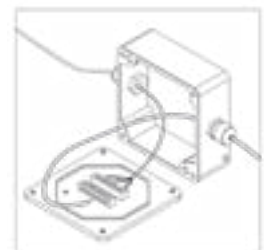

Fig 2
- Thread multi-core wire through the enclosure grommet as shown in Fig 2 and add the bootlace ferrules ready for connection within the display enclosure.